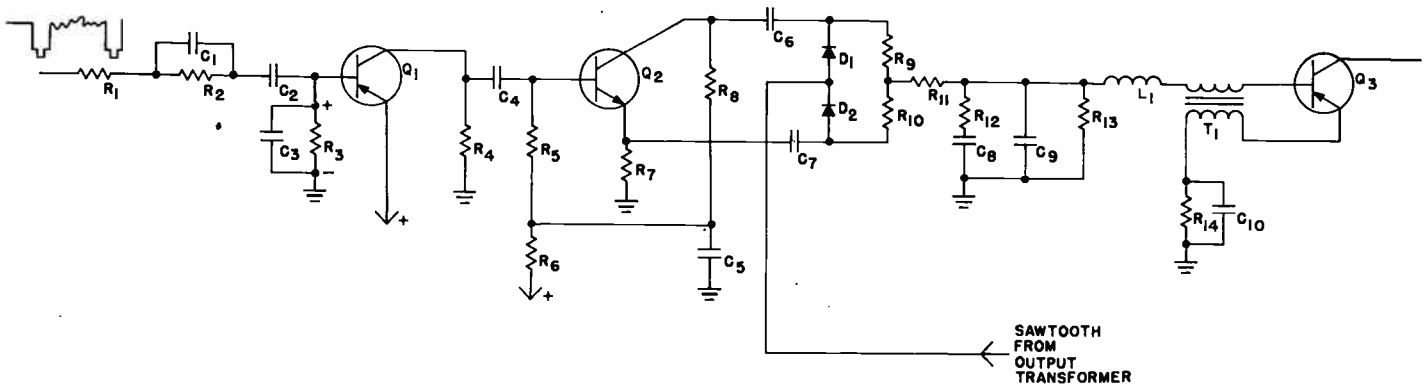

Fig. 35. Sync separator, sync splitter, afc and blocking oscillator circuits.
An example of a sync system where positive and negative sync pulses are used is shown in Fig. 35. In this circuit, the video signal with negative-going sync pulses is fed to the base of Q_1 , the sync separator. Q_1 is a PNP transistor -- it will conduct on the negative sync pulses applied to the base. A bias will be developed across R_3 , as shown, that will prevent Q_1 from conducting, except on the sync pulses.
(Fig. 35) to vary quickly. In fact, the charge on capacitor C_5 is the average of the instantaneous changes for a number of lines. Thus, rapid instantaneous changes of multivibrator frequency, which would make the system more susceptible to noise, do not occur. Likewise, sharp noise pulses do not influence the multivibrator frequency, because they cannot change the charge on C_5 because of the long time constant of the associated circuit.
- (ap) What is the polarity of the sync pulse fed to the base of Q_2 in Fig. 35?
- (aq) What is the polarity of the sync pulse at the emitter of Q_2 in Fig. 35? At the collector?
- (ar) Do the diodes D_1 and D_2 in Fig. 35 conduct at all times?